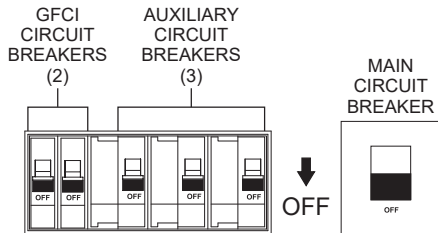

Figure 17. Main, Auxiliary, And GFCI Circuit Breakers (OFF)
2. Place the **main, auxiliary, and GFCI** circuit breakers (Figure 17) in the **OFF** position.
2. Place the **main, auxiliary, and GFCI** circuit breakers in the **OFF** position as shown in Figure 17.